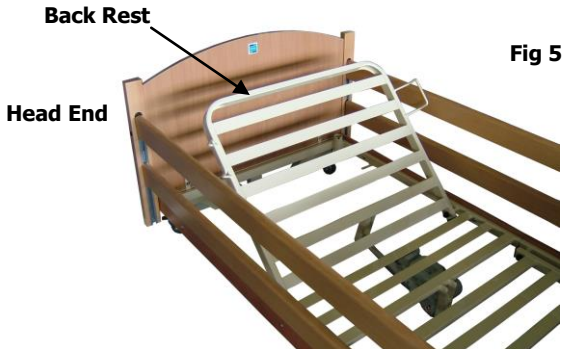

**Fig 4**
5. **Important:** Ensure the **grab handle** is fitted only in the positions shown in Fig 4.